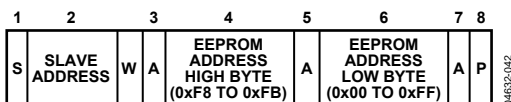

Figure 40. Setting an EEPROM Address
- To set up a 2-byte EEPROM address for a subsequent read, write, block read, block write, or page erase. In this case, the command byte is the high byte of the EEPROM Address 0xF8 to Address 0xFB. The only data byte is the low byte of the EEPROM address, as shown in Figure 40.